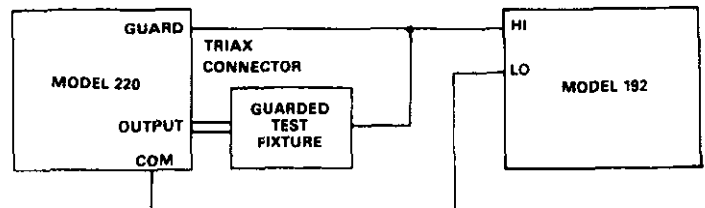

Figure 3-3. $1\mu\text{A}$ - 1nA Range Verification
3. Set up the circuit shown in Figure 3-3.